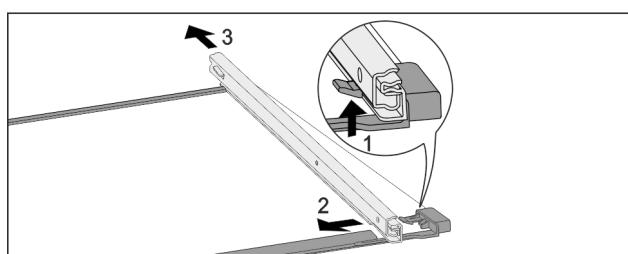

Fig. 179 Glass shelf with rails
- ▶ Push up front click-in hooks. Fig. 179 (1)
- ▶ Move the pull-out rails to the side Fig. 179 (2) and to the rear Fig. 179 (3).